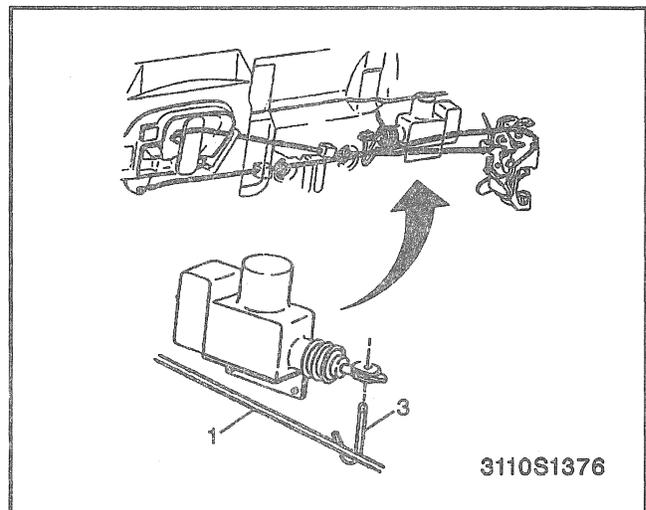

Figure 25—Lock Rods and Actuator
5. Lock rods from lock handle, lock lever, and lock rod guides (Figure 25).
4. Lock rods to lock handle, lock lever, and lock rod guides (Figure 25).
Remove or Disconnect (Figure 25)
Install or Connect (Figure 25)